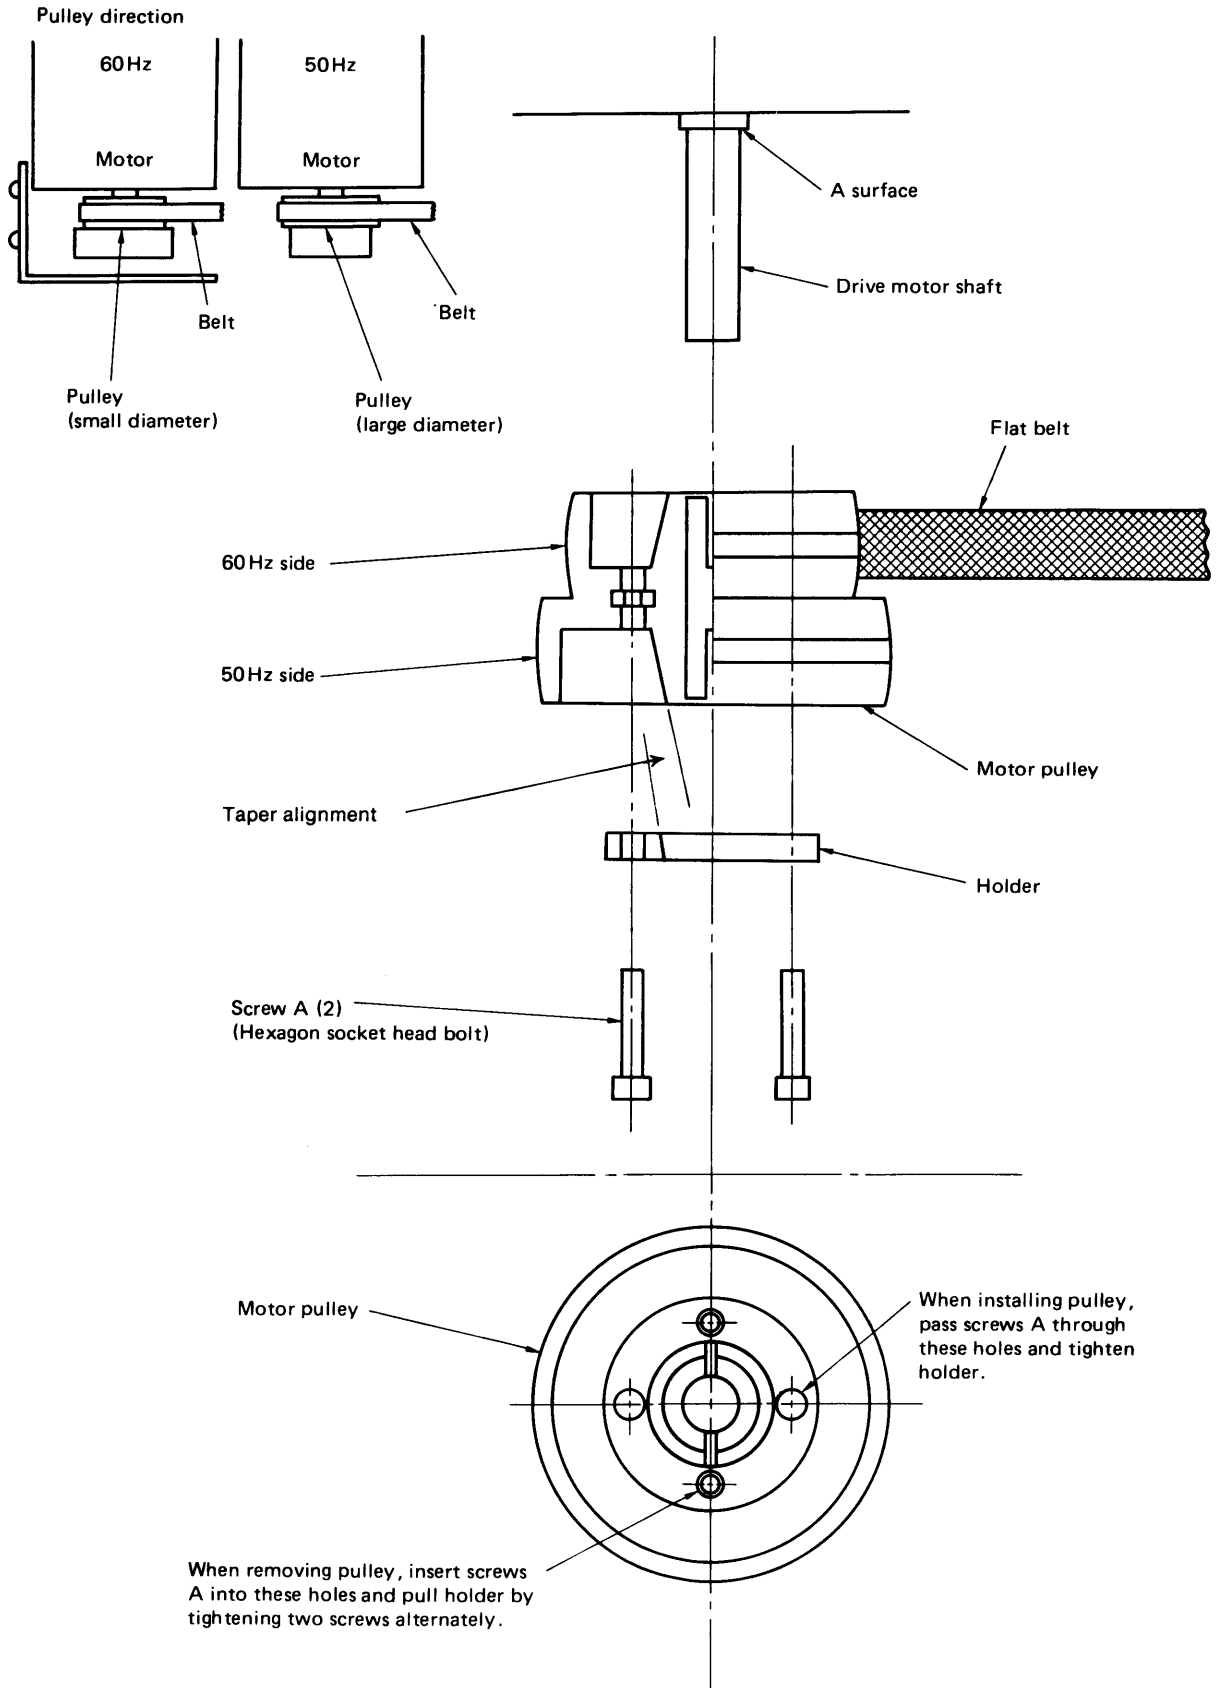

Figure 6-5-4 Motor Pulley Replacement
To replace the motor pulley and change from 60Hz to 50Hz, proceed as follows: Refer to Fig. 6-5-4.
- (1) Remove belt in accordance with para. 6.5.4.
- (2) Loosen and remove two screws A.
- (3) Insert removed screws A into threaded holes in holder, and remove the holder by tightening screws alternately.
- (4) After removing holder, remove pulley from motor shaft. See Fig. 6-5-4.